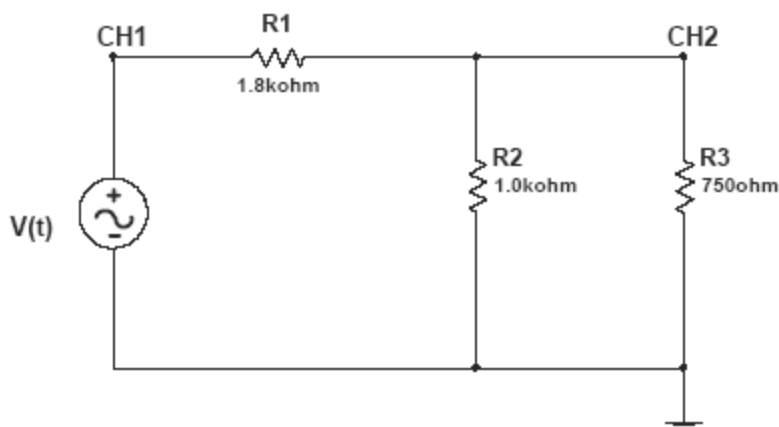

Figure 6.2
- 2 Assemble the circuit in (fig 6.2). Where  $R_1 = 1.8\text{K}\Omega$ ,  $R_2 = 1\text{K}\Omega$ ,  $R_3 = 750\Omega$ . Check and adjust, if necessary, the source signal after connection.